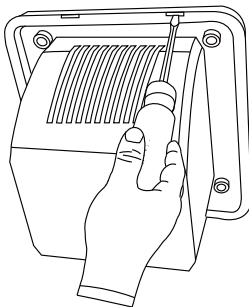

Fig 1
1. Before installation, use a tool to remove the faceplate. (Fig 1)